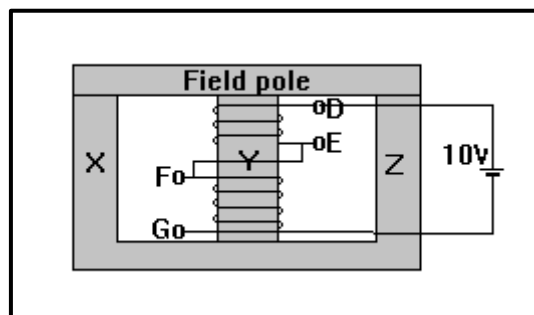

Figure 8.2
2. Make the connection as shown in Figure 8.2:
3. Reverse the connection of the coils in figure 8.2 and repeat steps 2: (a – e). **What do you find?**